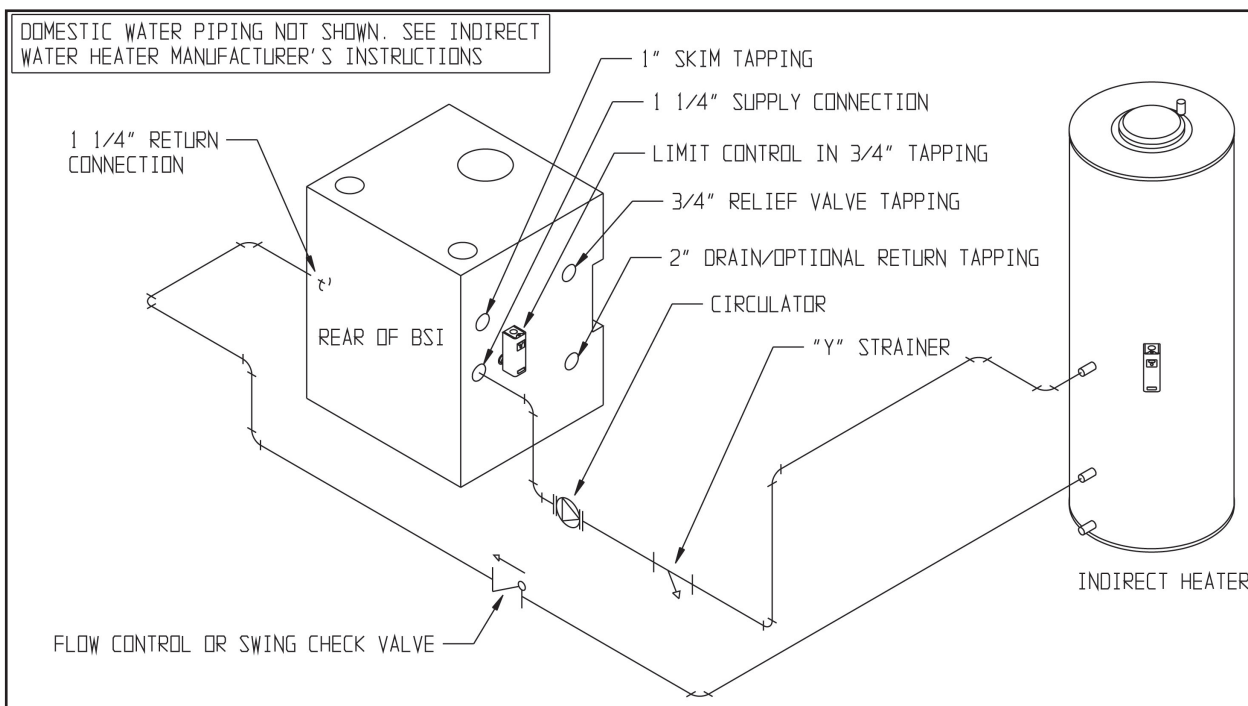
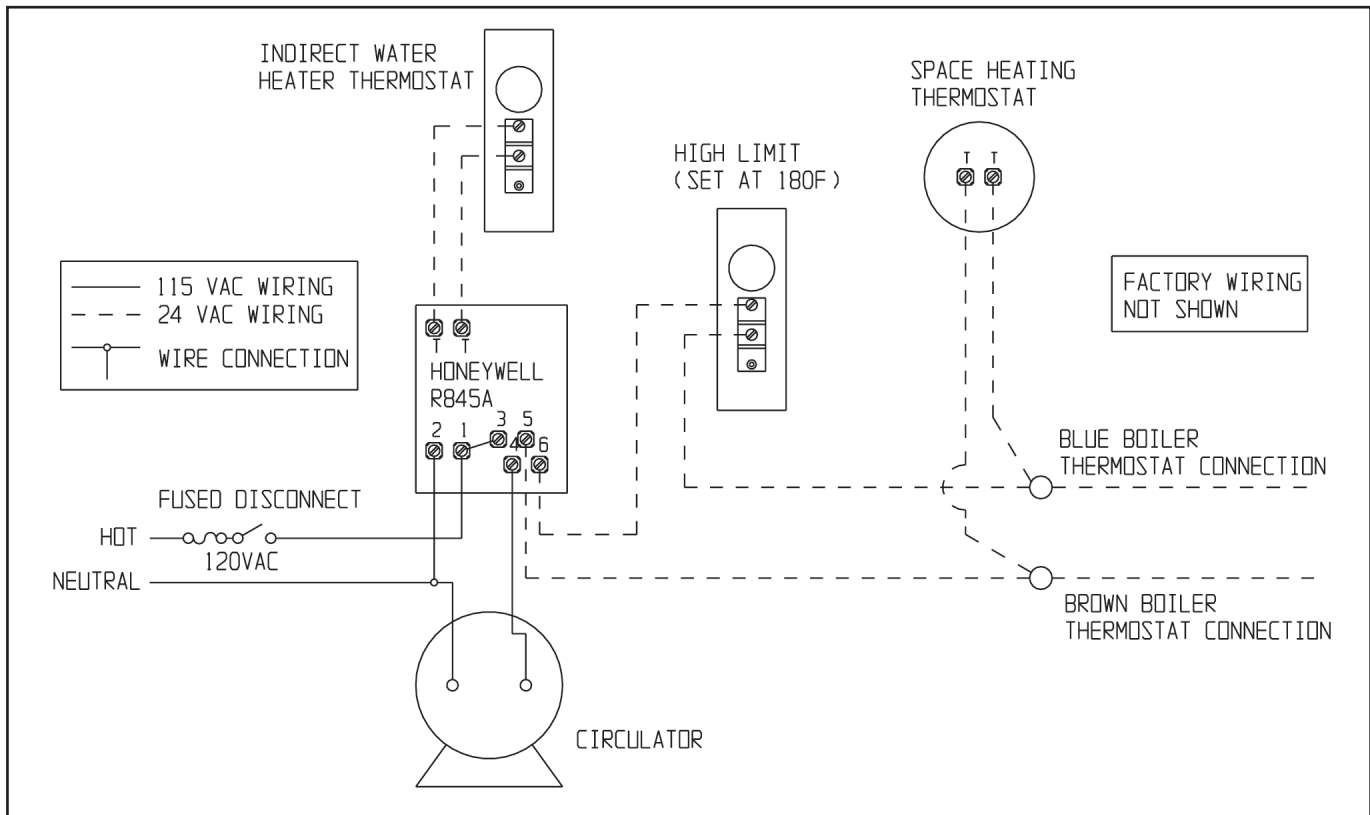

FIGURE 9: INDIRECT WATER HEATER BOILER-SIDE PIPING
FIGURE 10: WIRING INDIRECT WATER HEATER TO BOILER
- 1) **Circulator** - Mount the circulator as shown in Figure 9. The circulator should be located as low and as close to the boiler as practical. Do not install valves, or other devices having a significant pressure drop, between the boiler and the circulator inlet. All piping between the boiler and the circulator inlet should be 1", regardless of the size of the piping required in the rest of the system. See Figure 10 in Part X for wiring information.
- 4) **Boiler Limit Control** - Use a SPST break-on-rise temperature limit control such as the Honeywell L4006A. Do not set the limit above 180°F as doing so may cause the boiler to steam when there is no call for heat. See Figure 10 for wiring information.
Figure 10 shows field wiring for an indirect water heater. A Honeywell R845A or equivalent DPST relay and transformer is required. The high limit described in Part IX must also be supplied by the installer. A call for heat from the indirect water heater thermostat will energize the relay making both sets of contacts. One set of these contacts then energizes the circulator. The other set of contacts will make the “T” and “T” contacts on the burner primary control, firing the burner. If the boiler water temperature exceeds the high limit setting of 180°F, the high limit will open the “T”-“T” circuit and the burner will shut down.